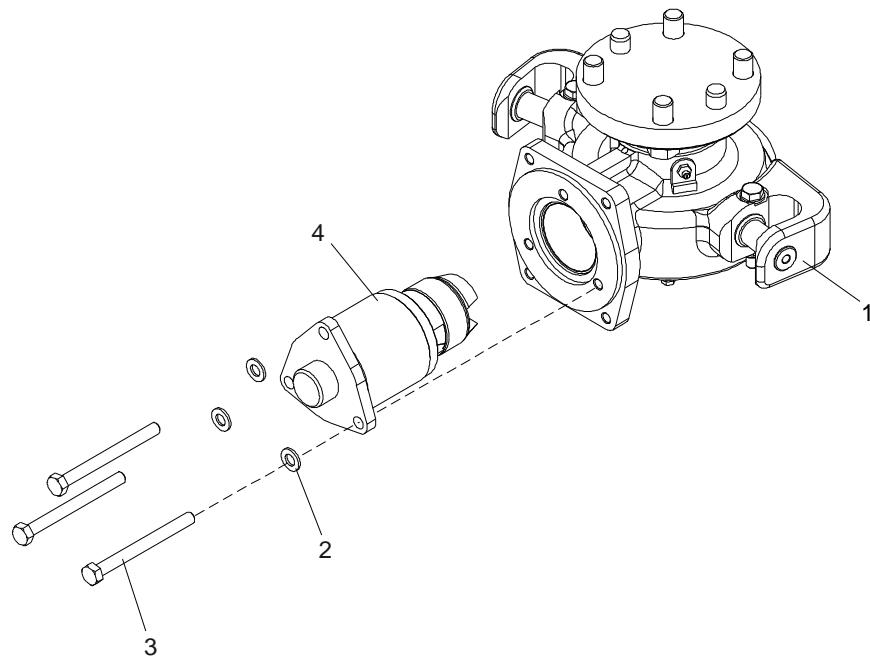

Figure 7-9: Replacement of Centering Insert
1. Remove the centering insert (4) from the centering housing (1) by removing the screws (3) and washers (2). See Figure 7-9.
2. Fit the centering insert (4) to the centering housing (1) and mount the washers (2) and screws (3). See Figure 7-9.